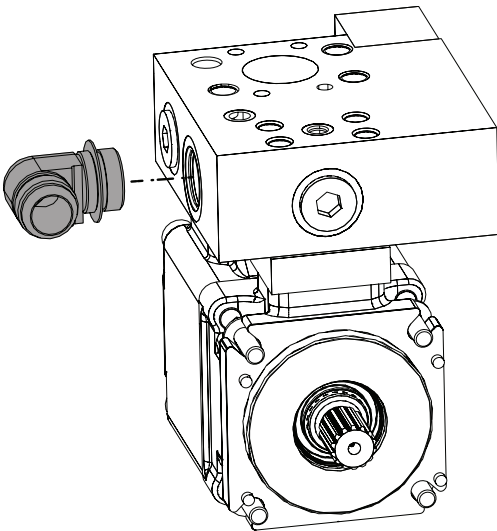

Figure 13
16. Install and hand tighten the pressure port fitting (#20 size, 90° fitting) into the pressure port (marked "P" on the manifold) (Figure 13). Do not over tighten because it will need to be rotated when connected to the hose.